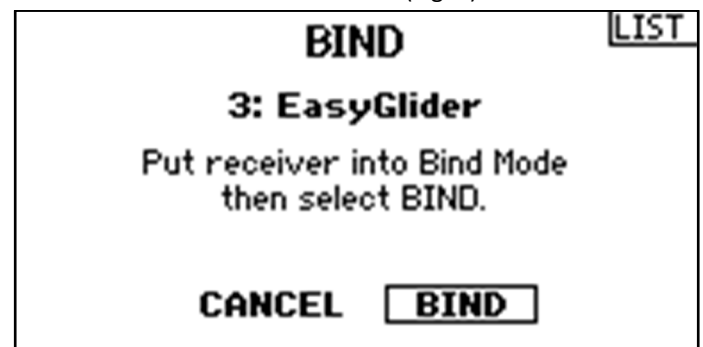

Figure 4: The "Bind" menu
5. In the "Bind" menu click "Bind" (Fig. 4)